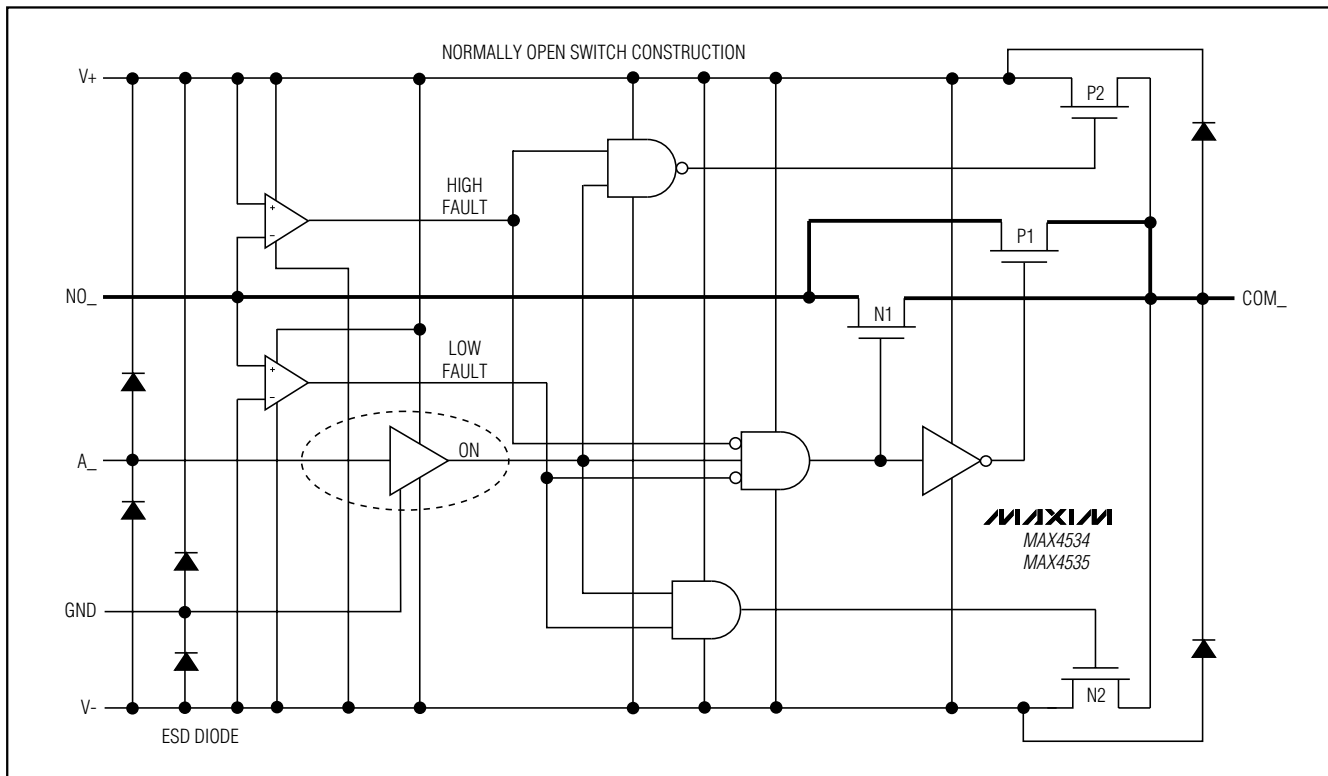

Figure 1. Functional Diagram
Figure 1 shows the internal construction, with the analog signal paths shown in bold. A single, normally open (NO) switch is shown. The analog switch is formed by the parallel combination of N-channel FET N1 and P-channel FET P1, which are driven on and off simultaneously, according to the input fault condition and the logic level state.
off in response to A- signals (Figure 1). The parallel combination of N1 and P1 forms a low-value resistor between NO- and COM- so that signals pass equally well in either direction.
When the signal on NO- exceeds V+ by about 150mV, the positive fault comparator output goes high, turning off FETs N1 and P1 (Figure 1). This makes the NO- pin high impedance regardless of the switch state. If the switch state is "off," all FETs turn off, and both NO- and COM- are high impedance. If the switch state is "on," FET P2 turns on, clamping COM- to V+.
When the signal on NO- goes about 150mV below V-, the negative fault comparator output goes high, turning off FETs N1 and P1 (Figure 1). This makes the NO- pin high impedance regardless of the switch state. If the switch state is "off," all FETs turn off, and both NO- and COM- are high impedance. If the switch state is "on," FET N2 turns on, clamping COM- to V-.
FETs N2 and P2 can source about ±10mA from V+ or V- to the COMn pin in the fault condition (Figure 1). Ensure that if the COMn pin is connected to a low-impedance load, the 30mA absolute maximum current rating is never exceeded, both in normal and fault conditions.